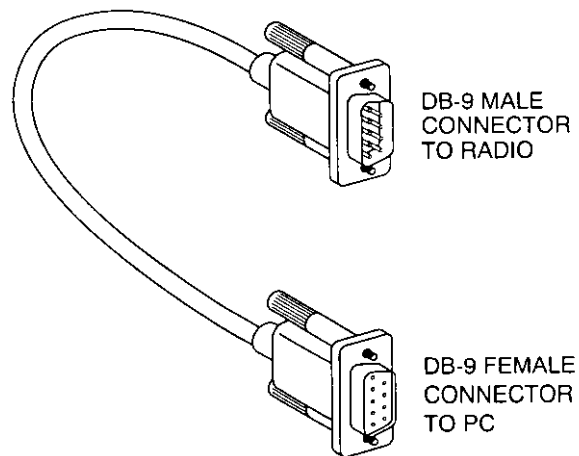
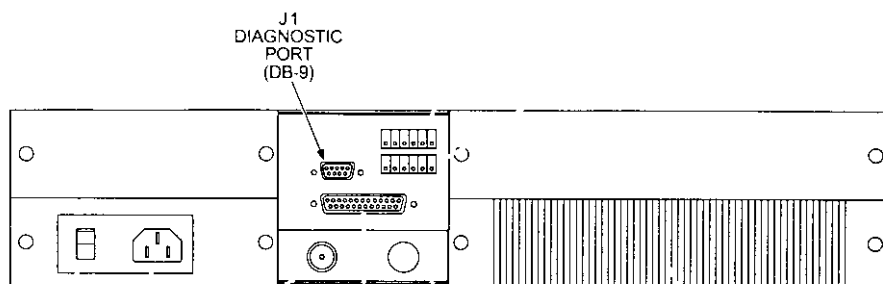

Figure 22. PC Diagnostic Port cable (DB-9 to DB-9)
Figure 23. Diagnostic Port (rear panel)
1. Connect a DB-9 to DB-9 cable (Figure 22) between the PC and the radio's rear panel DIAGNOSTIC PORT (Figure 23).